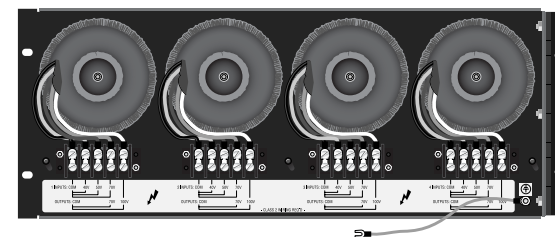

Figure 5.4 TP-170V (back view)
**TP-170V:** See Figure 5.4. This is a rack-mountable panel with four autoformers as described above.